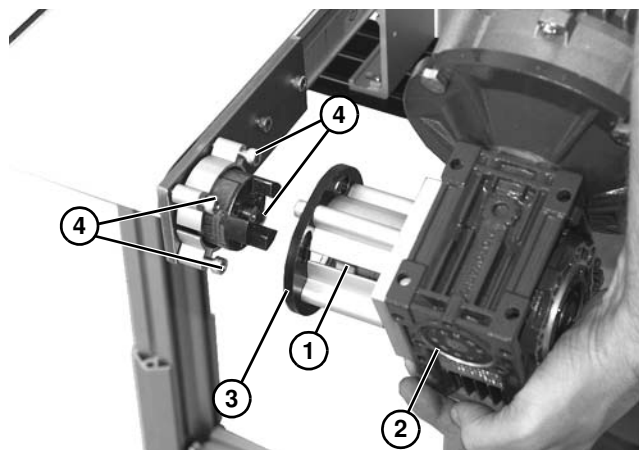

Figure 7
8. Install spider bushing (Figure 7, item 1) in mating female portion of 3 jaw coupling on gearmotor assembly (Figure 7, item 2).
9. Slide and pivot gearmotor and gearmotor mounting ring (Figure 7, item 3) onto four screws (Figure 7, item 4) (through slots in gearmotor bracket).